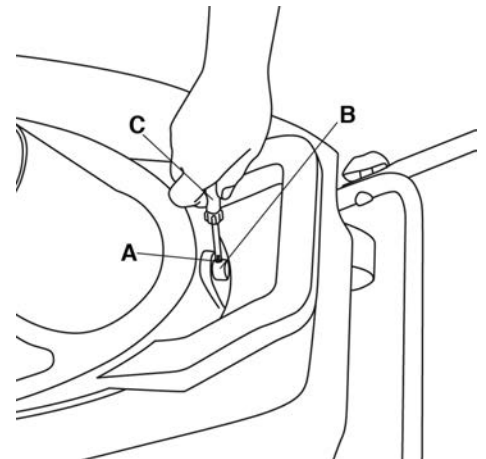

FIGURE 14
13. Loosen the screw (A) Fig.14 on the discharge chute base (B) with a screwdriver (C).